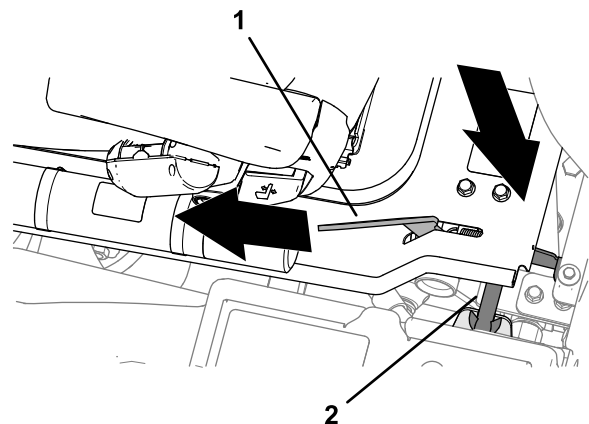

Figure 46
2. As the platform nears the fully lowered position, move the platform-latch handle (Figure 46) toward the front of the machine.